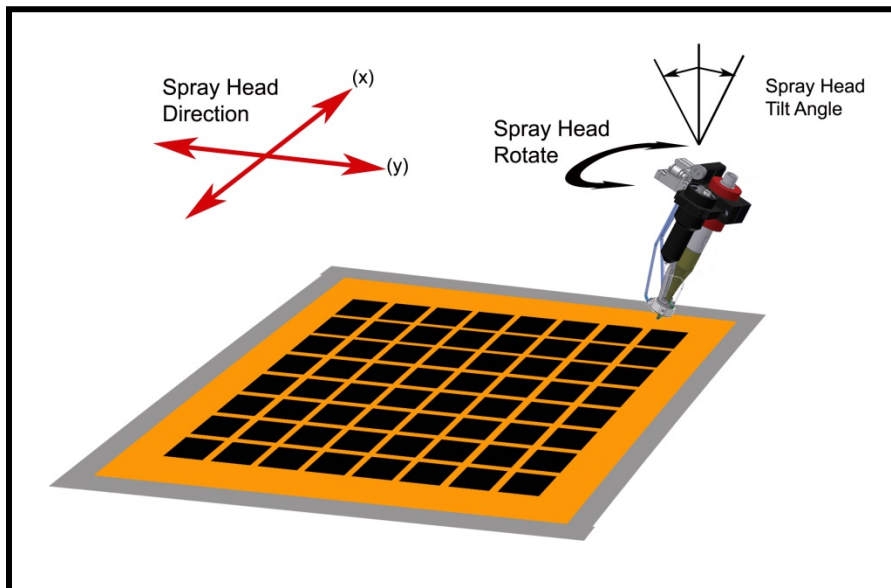

Figure 7 – Ultrasonic Spray Head with Tilt & Rotate
When the carrier with the components enters the coating system the coating is applied in a defined sequence to ensure that all component surfaces are uniformly coated. In order to coat the top and side surfaces of the components on the carrier, four (4) coating layers are applied with the approach angle and direction of the spray head changed for each layer as illustrated in *Figures 7 and 8*. The ultrasonic spray head is mounted on a 5-position rotate and tilt mechanism so that all component surfaces can be coated. The tilt angle is adjustable for process optimization.